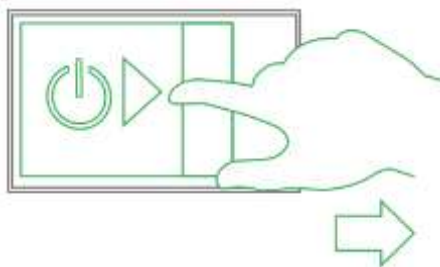

Figure 3-20
Step 1 Move the system start button to the right and the system starts up, as shown in Figure 3-20.